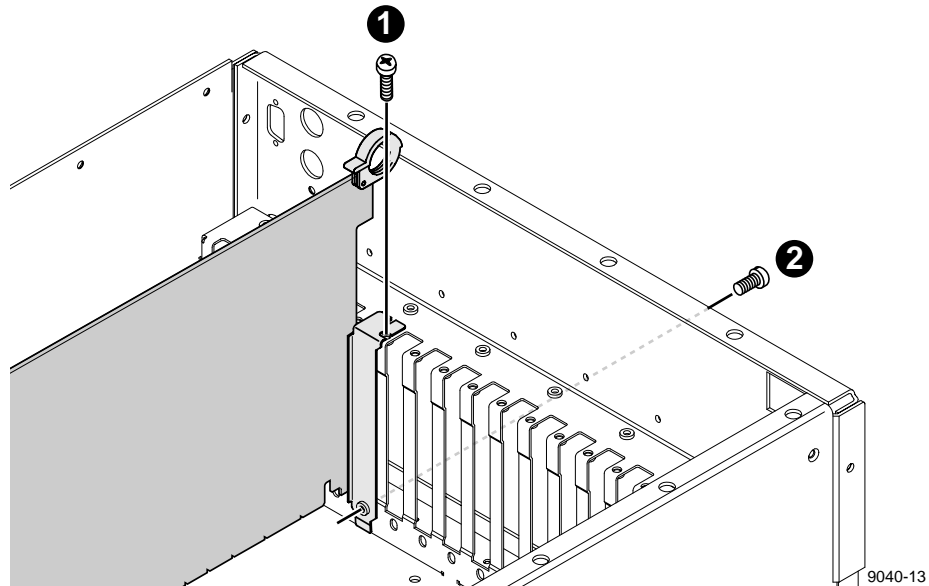

Figure 4. Screw locations for board mounting slot cover
4. Install the slot cover screws. Use the Torx tool with the T15 tip to install the mounting screws in the top of the slot cover inside the chassis (1 in Figure 4) and through the rear panel at the bottom of the slot cover (2 in Figure 4).
5. Install the slot cover screws. Use the Torx tool with the T15 tip to install the mounting screws in the top of the slot cover inside the chassis (❶ in Figure 4 on page 13) and through the rear panel at the bottom of the slot cover (❷ in Figure 4 on page 13).
3. It may be necessary remove the top slot cover screw that mounts any adjacent circuit boards to allow more give so board removal is easier (refer to Figure 4 on page 13 for the location of the top screw). Use the Torx tool with the T15 tip to do so.
4. Use the Torx tool with the T15 tip to remove the screws from the top of the slot cover inside the chassis (❶ in Figure 4) and the screw through bottom of the slot cover through the rear panel outside the chassis (❷ in Figure 4).
2. Install the slot cover screws. Use the Torx tool with the T15 tip to install the mounting screws in the top of the slot cover inside the chassis (❶ in Figure 4 on page 13) and through the rear panel at the bottom of the slot cover (❷ in Figure 4).